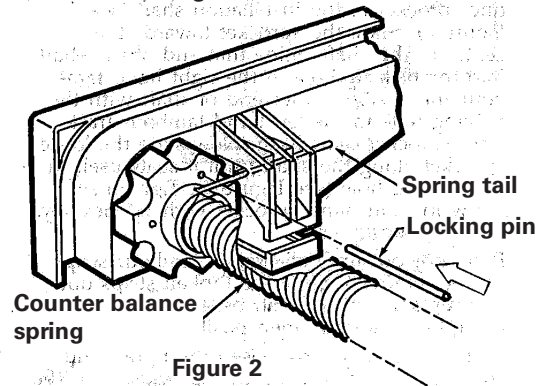

Figure 2
**WARNING: WHEN TAMBOUR DOOR IS OPEN, THE COUNTERBALANCE SPRING IS UNDER TENSION. DO NOT PROCEED UNTIL A LOCKING PIN IS INSERTED UNDER SPRING TAIL AND INTO ONE OF THE THREE HOLES IN THE SPROCKET (SEE FIGURE 2).**